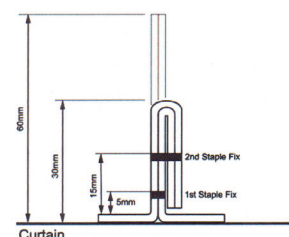

Figure 2
3. Loose fix the top edges of the curtain at 250mm centres, to the underside of the soffit. Using 65 x 6 mm diameter "sleeve" anchor bolts and 38 mm diameter washers. N.B. All overlaps running vertically, to be 60 mm as shown in figure 2.
4. Fix vertical seams at 60mm centres, 5mm away from the face of the curtain and staple the vertical seams using zinc coated steel plates, 11.5 mm x 6 mm x 0.5 mm, see Figure 2.
6. Fold over all 60 mm overlaps in half to form a double overlap and staple together as before, at 60 mm centres, 15 mm away from the face of the curtain and at a 30 mm stagger to the first fix positions, as shown in Figure 2.